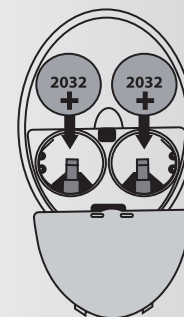

Fig. 27
**Note:** To prevent damage to transmitter, remove the batteries if not used for long periods of time (months). (Fig. 27)